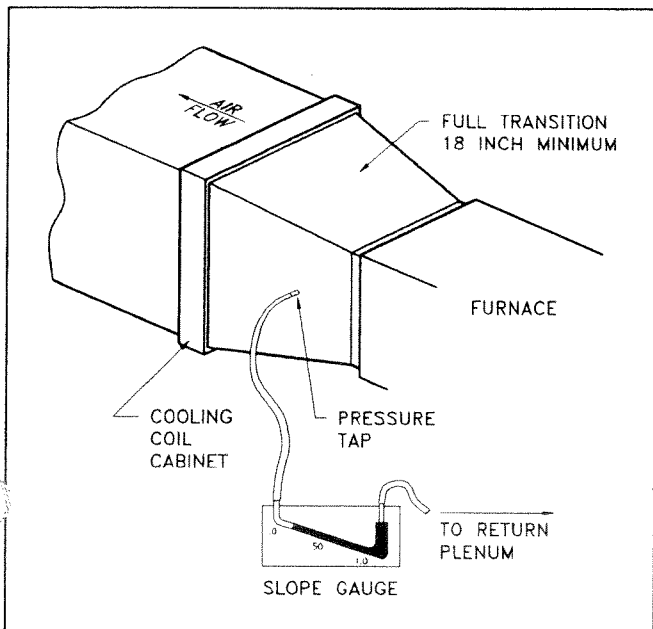

Figure 35. Measuring Duct System Static Pressure.
7. Insert one static pressure tap into supply air transition duct between furnace and cooling coil or in the supply air plenum for heating only systems. Connect this pressure tap to positive pressure side of slope gauge. See Figure 35.
8. Insert other static pressure tap in return air plenum. Connect this pressure tap to negative pressure side of slope gauge. See Figure 35.